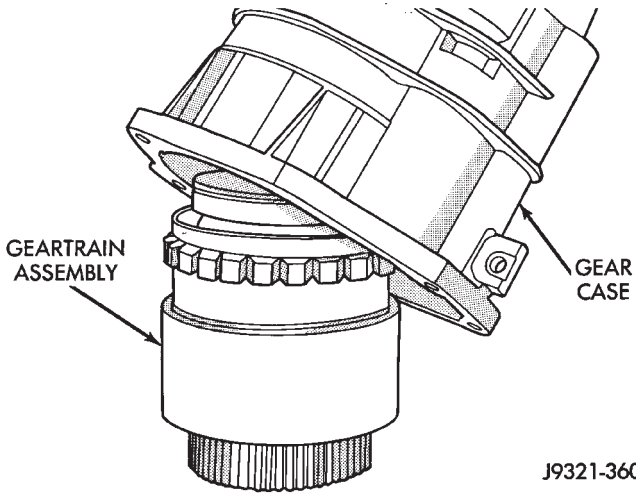

Fig. 16 Removing Gear Case From Geartrain Assembly
(6) Lift gear case up and off geartrain assembly (Fig. 16).